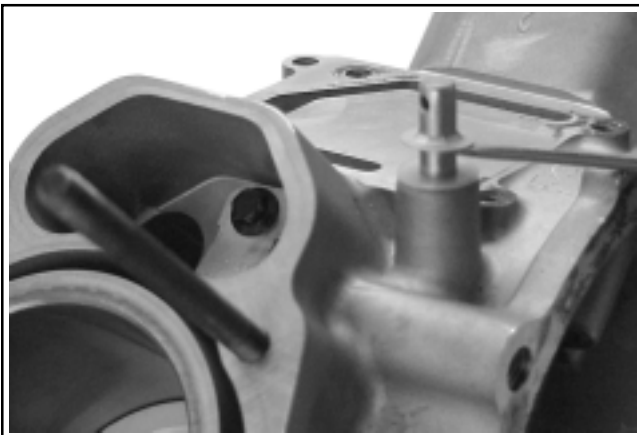

Figure 9-75. Removing Retaining Ring and Nylon Washer.
1. Remove the retaining ring and nylon washer from the governor cross shaft. See Figure 9-75.